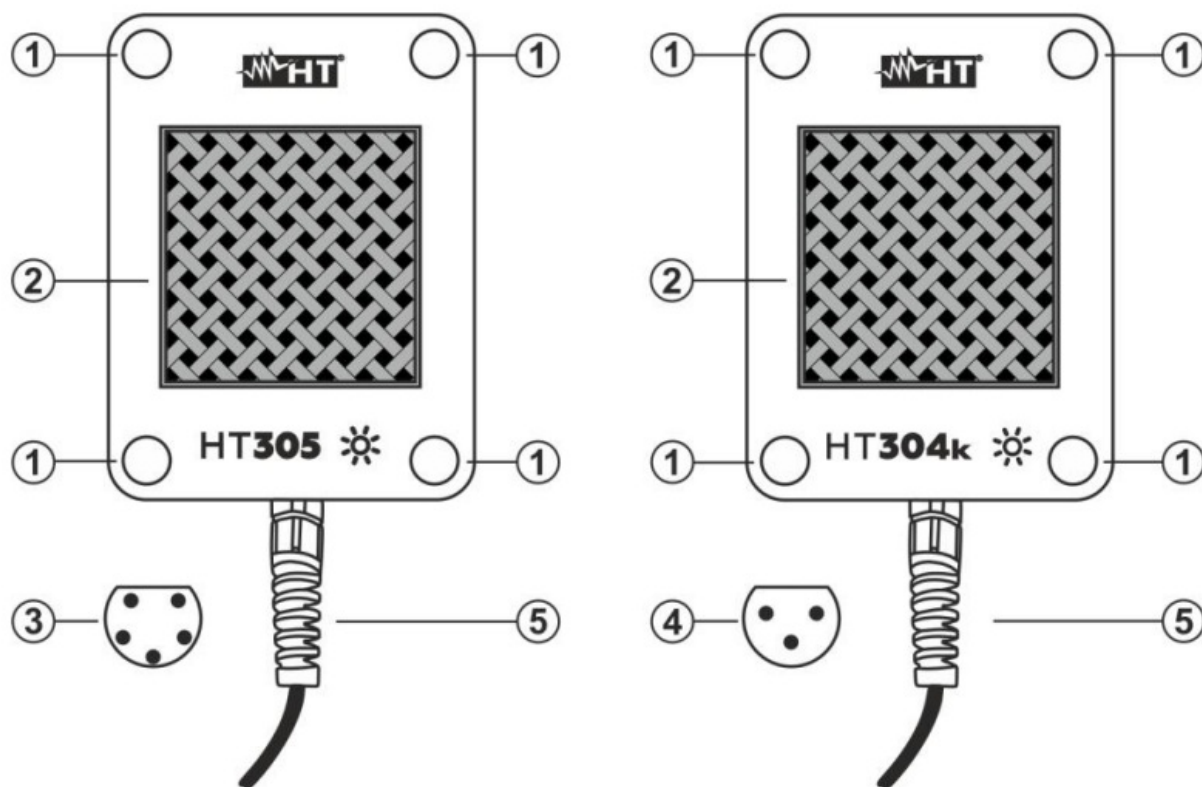

Fig. 1 Accessory description
4. Connect the connection cable's connector (5 poles for HT305 or 3 poles for HT304k – see Fig.1 – parts 3 and 4) to the remote unit SOLAR03 (HT305) or to the remote unit SOLAR-02 or to Master instruments with 3-pole HT connector (HT304k).